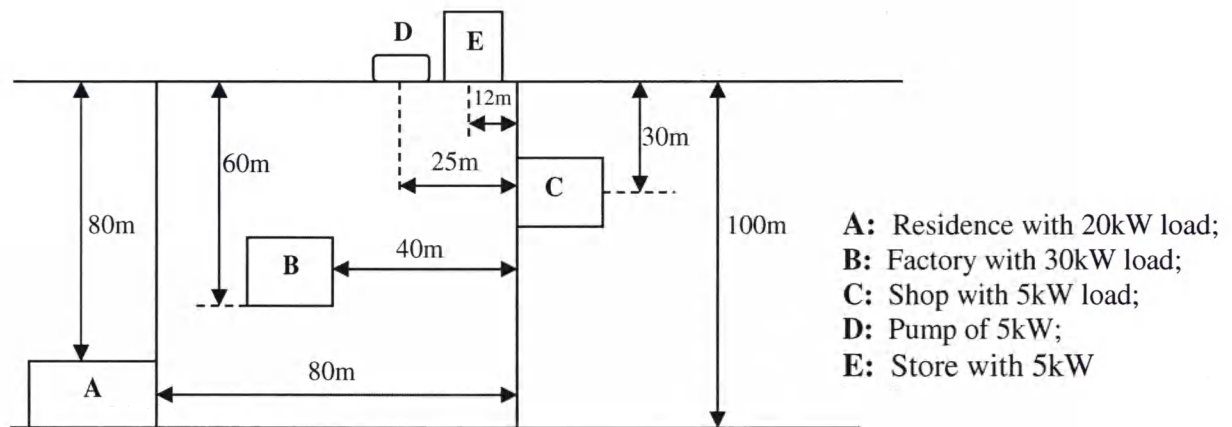

Figure-1
2. a. Figure-1 shows the layout plans for different buildings for a small cottage industry. Determine the electrical load centre for the industry and also determine the size of feeder lines for 2% voltage drop for 230V supply. [4]